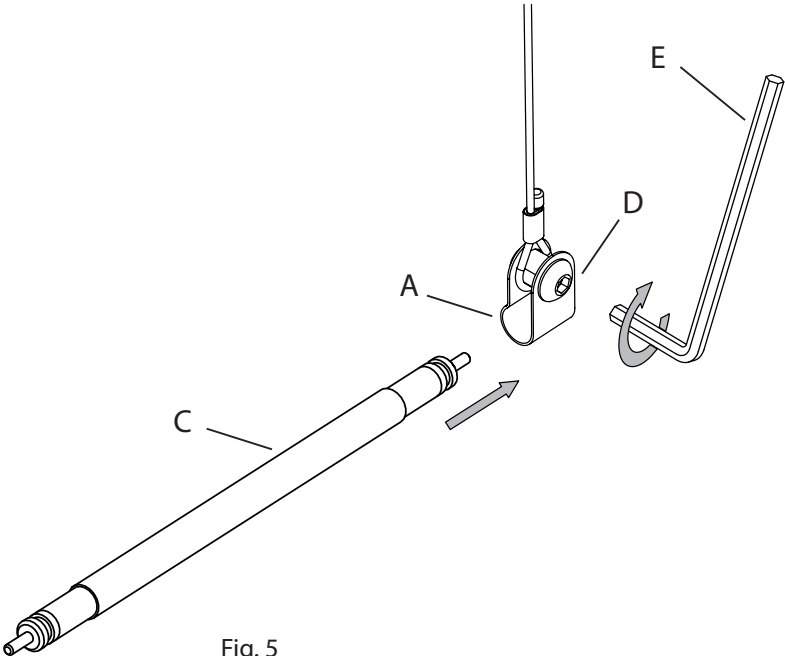

Fig. 5
7. Install Arm (C) into the Hang Clip (A) (Fig. 5) by sliding the Arm through the Clip. Reference Constellation Aquarius Grid from Step 3. Once the Arm (C) is in the desired location, tighten the Screw (D) using the Large Hex Wrench (E) provided.
8. Assemble the components to create the Section sub-assemblies by executing steps 9-11. **NOTE:** The Power Feed Hub (F) can be placed at any location. In this example, the center hub of Section 2 is a Power Feed Hub.